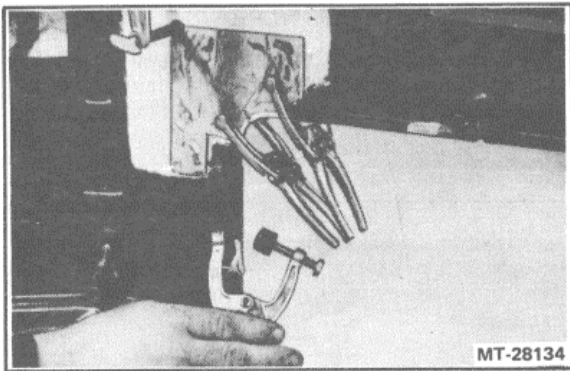

Figure 36. - Attaching Backing Plate
16. Now determine a method of holding the backing patch in place (C-clamps, self-tapping screws, etc.) and trial test the method (Figure 36).